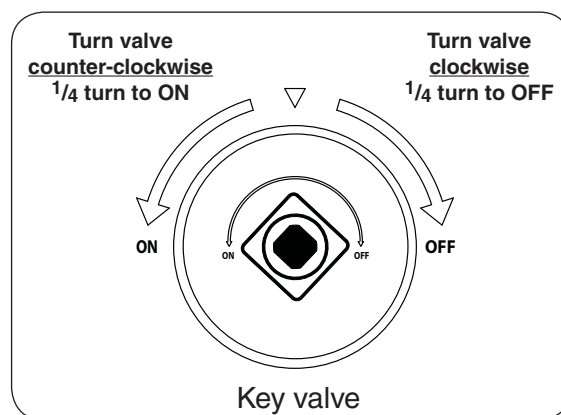

Fig. 27-2
4. **While holding the igniter button in, verify that the electrode spark is grounding to the flash tube, then gradually turn the key valve counter-clockwise a 1/4 turn to the **ON** position (see Fig. 27-2). Your burner should light.**
To **extinguish your gas burner**, turn the key valve clockwise a 1/4 turn to the **OFF** position (see Fig. 27-2). Be sure the control knob is turned fully off to avoid any gas leakage.